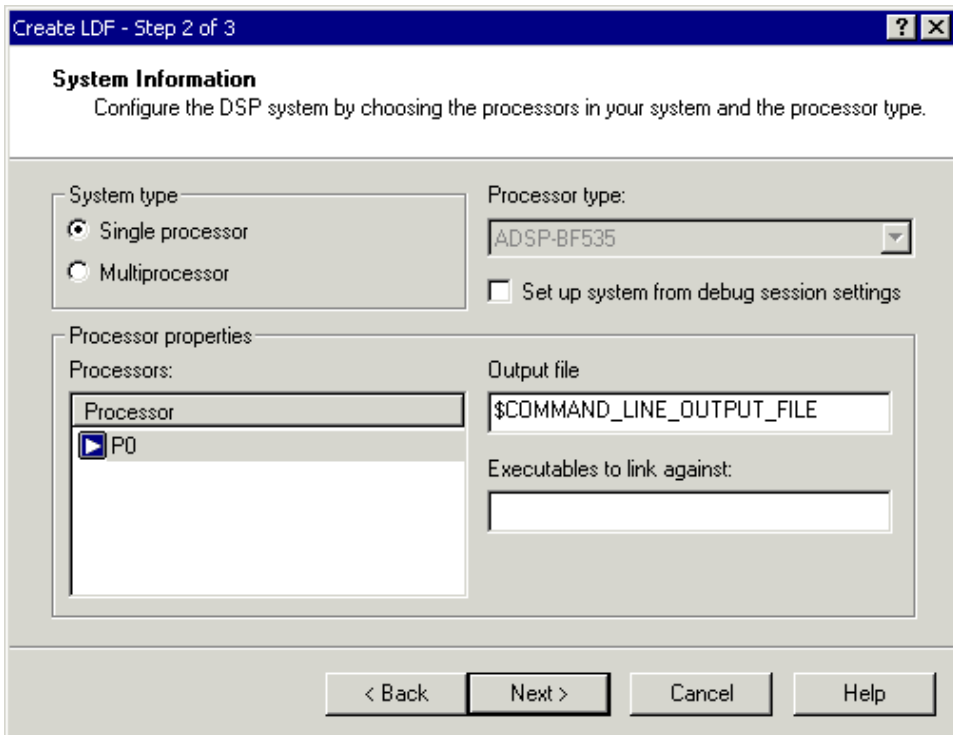

Figure 2-16. Create LDF – Step 2 of 3 Page
3. Accept the values selected for your project and click **Next** to display the **Create LDF – Step 2 of 3** page, shown in Figure 2-16.